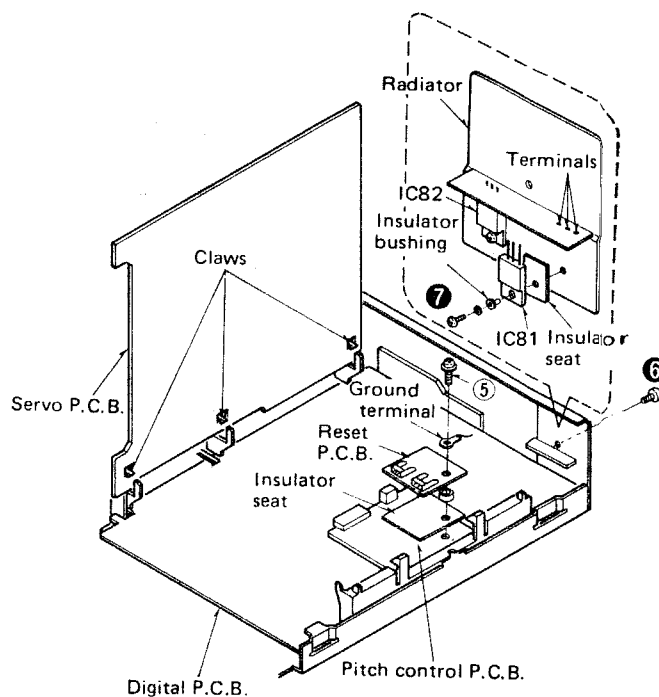

Fig. 3
4. When the servo circuit, digital circuit and pitch control circuit boards are checked, they should be in positions as in Fig. 3.
5. Release the 3 claws of the holder, then the servo circuit P.C.B. can be removed. [Fig. 3]
2. Raise the servo P.C.B. as shown in Fig. 3.
3. Remove the P.C.B. setscrew [Fig. 3: ⑤].
3. Remove the radiator setscrew [Fig. 3: ⑥] of regulator IC.
5. Remove the IC setscrew [Fig. 3: ⑦].
5. Raise the servo P.C.B. as in Fig. 3.